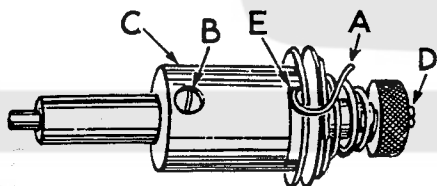
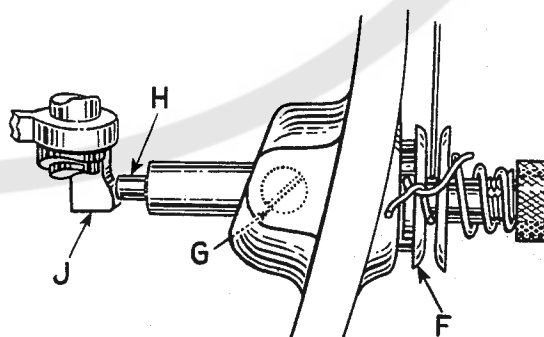
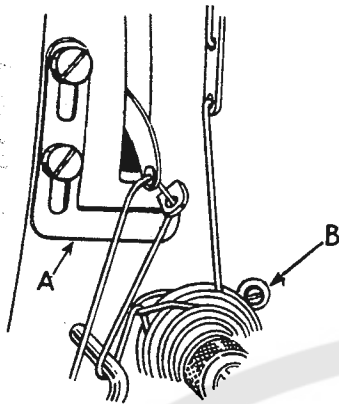

Fig. 20
Fig. 21
Fig. 22
Test check spring tension (A, Fig. 20). There should be enough tension to insure a good returning snap when spring is depressed and released.
Should it require adjusting, loosen set screw in the head on right side of tension post (G, Fig. 21) and remove tension post assembly. Partially loosen tension post set screw (B, Fig. 20) in tension post socket (C). Holding the socket in the left hand turn the tension post (D) counterclockwise with the right hand until the check spring moves away from the upper stop (E) and has no tension (E). Then proceed further in the same direction until the spring again touches the upper stop (E). When correctly set, the tension post set screw (B) should be drawn up snugly but not forcefully. Further adjustment of the check spring tension can be made by inserting a screw driver into the slotted end of the tension post (D) and turning in the required direction.
The frame take-up eyelet (A, Fig. 22) should be set at its lowest position.
The tension assembly should be located in bed from front to back, so that when the presser foot is raised to its highest position, the tension discs (F, Fig. 21) are opened just enough to allow the thread to pass through the discs freely.
To position the tension assembly, see that set screw in bed (G, Fig. 21) is loose and tension assembly adjusting screw (B, Fig. 22) is screwed down to the bed.
Lift the presser foot hand lifter to its highest position; with the left hand grasp the thread and pull it through the tensions, with the right hand push tension post deeper into the machine until release pin (H, Fig. 21) pressing against the presser bar connection (J) has opened the tension discs just enough to allow the thread to pull through freely. Re-tighten set screw (G), turn tension assembly adjusting screw (B, Fig. 22) counterclockwise until it contacts the flange of the tension post socket.